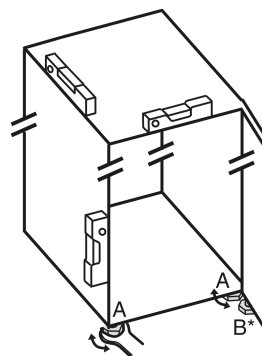

Fig. 33
- ▶ Unscrew the adjustable feet Fig. 33 (A) using the enclosed open-end spanner and a spirit level until the appliance is firmly aligned and level.
- ▶ Unscrew the adjustable foot Fig. 33 (B) on the swap bearing block with the enclosed open-end spanner until it rests on the floor.
- ▶ Turn the adjustable foot Fig. 33 (B) 90° further.